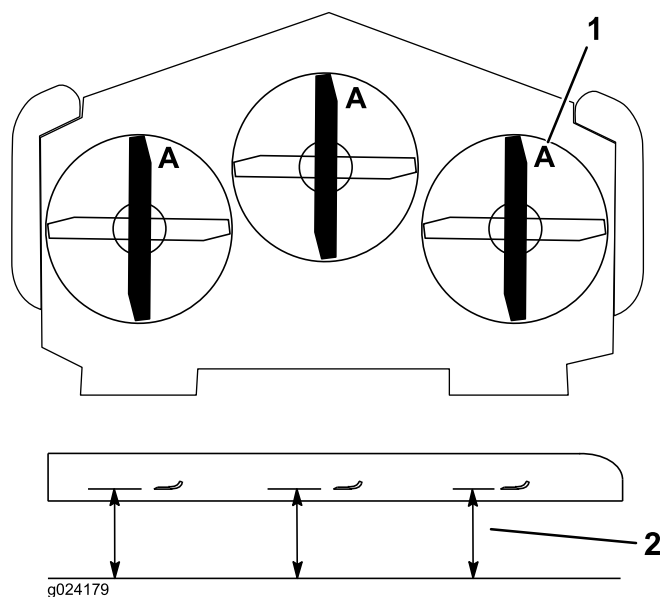

Figure 97
3. Rotate the blades until the ends face forward and backward (Figure 97).
4. Measure from a level surface to the cutting edge, position A, of the blades (Figure 97).